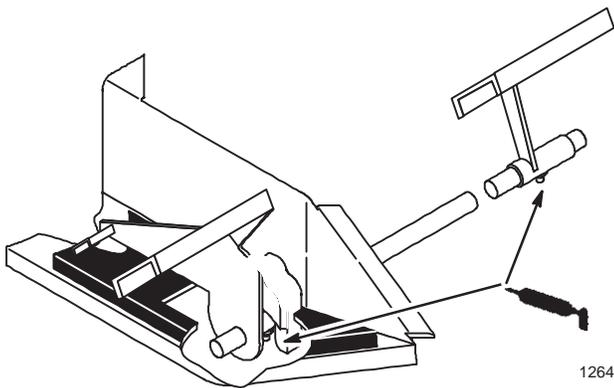

Figure 28
3. Lubricate the traction control pedal on hydrostatic models (or brake and clutch pedals on gear drive models) where they pivot on mounting shaft (Fig. 28).